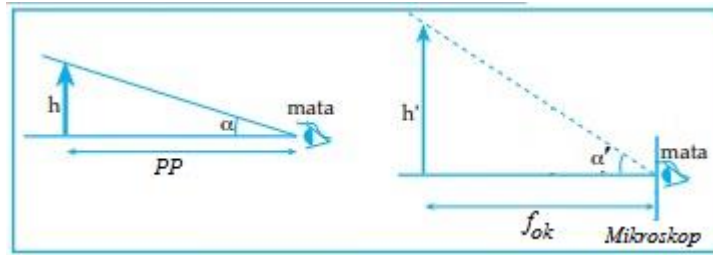

Figure 1. Point of view comparison scheme
The total magnification of the microscope is the comparison of the angle of view when looking at objects using a microscope to the point of view when looking at objects without using a microscope. For example, an object as high as h is right at the point near or the *punctum proximum* (PP), the observer produces a α angle of view when not using a microscope. Assume the observer is someone with normal eyes so has $PP = 25$ cm. When using a microscope with the eye unaccommodated, the image from the objective lens h' is exactly at the focal point of the ocular lens f_{ok} , resulting in an angle of view of α' as shown in Figure 1.
Based on the analysis of Figure 1 obtained the equation: